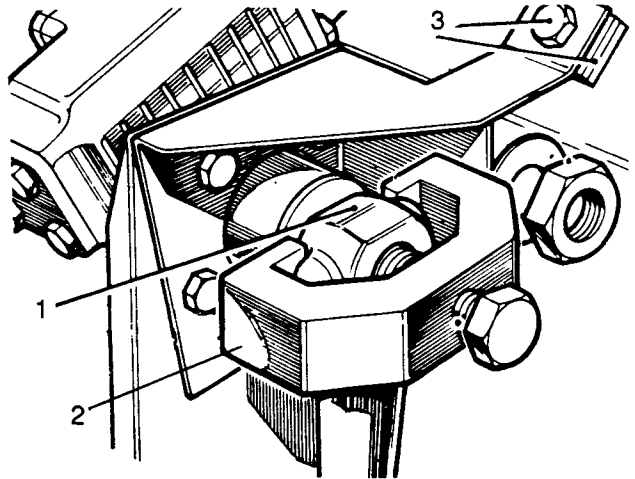

Fig L4.8
- (8) Refer to Fig L4.8. Disconnect the steering drop arm and the attached longitudinal steering tube (1) from the steering box, using special tool 600000 (2).
- (9) Remove the fixings steering box stiffener bracket (3) to the box.
- (10) Raise the front of the vehicle and support on stands.
- (11) Remove the driver's side front road wheel.